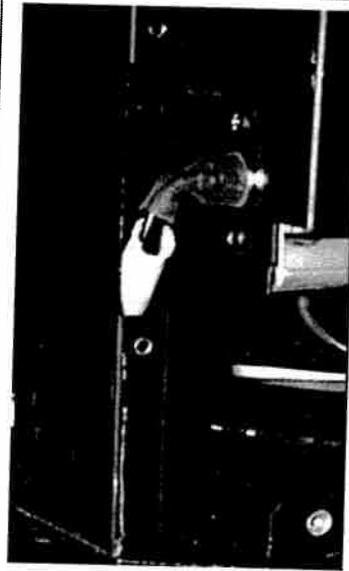

Fig.4
- Secure the thermally actuated switch to the side of the firebox (fig 4)